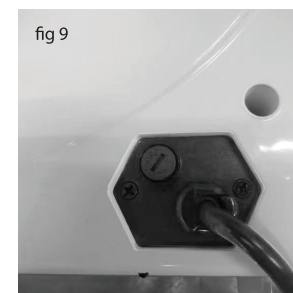

fig 9
- Check if the fuse located in the power plug receptacle is blown. (fig 9)